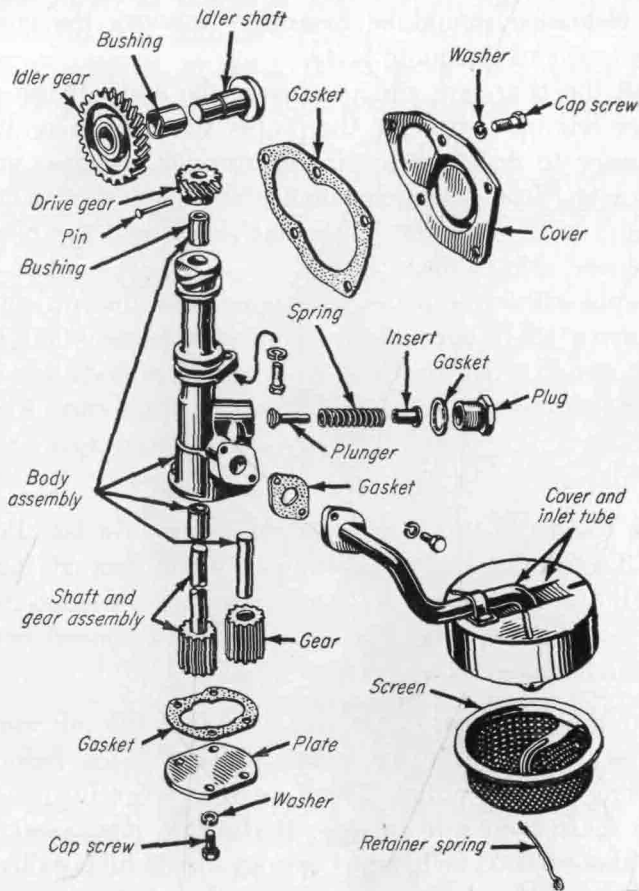

FIG. 12-9. Disassembled view of oil pump used on V-8 engine. (Ford Motor Company)
3. *Ford.* Figure 12-9 is a disassembled view of a late Ford-type oil pump. The oil pump is removed, with the oil pan off (§230), by removing the attaching screws. On some earlier models No. 1 or Nos. 1 and 3 main-bearing caps must also be removed before the oil pump can be taken off.